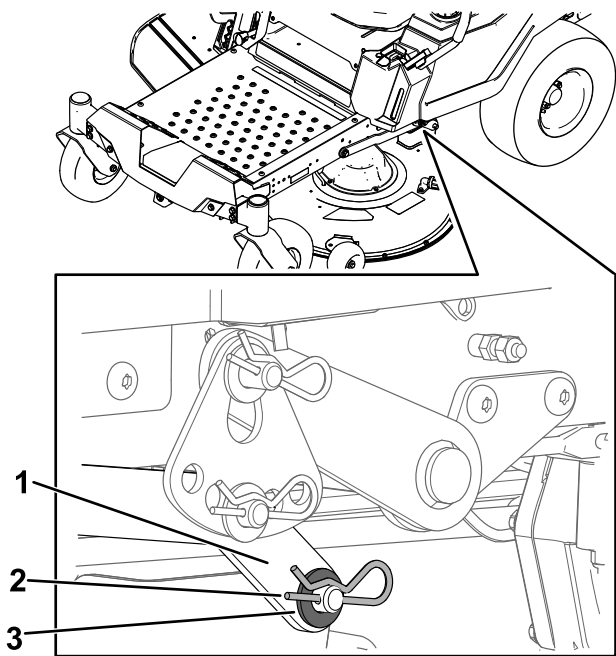

Figure 73
7. On 1 side of the machine, remove the washer and hairpin cotter from the deck pin (Figure 73).
8. Remove the lift arm from the deck pin (Figure 73).
5. On 1 side of the machine, lift the rear of the mower deck and install the lift arm to the deck pin (Figure 73).
6. Install the lift arm using the washer and hairpin cotter (Figure 73).